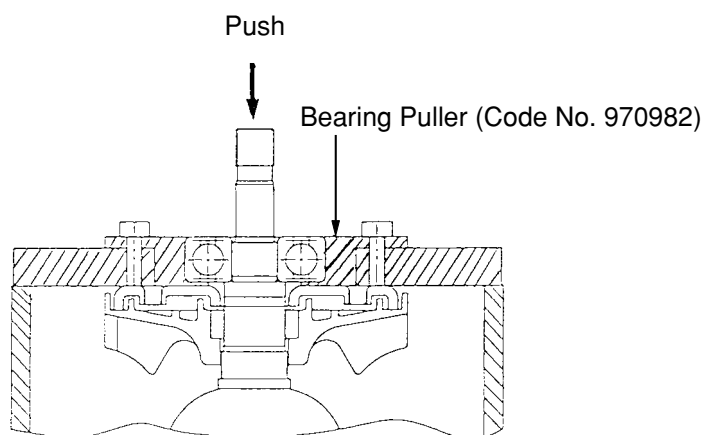

Fig. 9
6. After removing the two Seal Lock Screws (W/SP. Washer) M5 x 14 (Black) **[1]** **<1>**, the Armature **[13]** **<13>** can be extracted together with the Bearing Cover (A) **[12]** **<12>**, and related parts.
8. For the models indicated under Fig. 9, the Ball Bearing 6301DDCMPS2L **[10]** **<10>** can be removed from the Armature **[13]** **<13>** by utilizing a J-204 Bearing Puller (special repair tool, Code No. 970982) as illustrated. After the ball bearing has been removed, the Bearing Cover (A) **[12]** **<12>** can be easily taken off.
- (1) Generously lubricate the teeth of Gear [19] <19> and Pinion [7] <7> with grease. Rub grease onto the teeth with your fingers so that the grease reaches each tooth bottom. Note that under-lubricated Gear [19] <19> and Pinion [7] <7> may wear at a faster rate.
- (2) When replacing the Armature [13] <13> and the Ball Bearing 6000VVCMP2L [37] <37> on the commutator side, press inward on the Dust Seal [36] <36> while taking care of its direction until the end face of the Dust Seal [36] <36> hits against the butting surface of the Armature [13] <13> and make sure that the Dust Seal [36] <36> cannot turn freely. (See Fig. 9.)